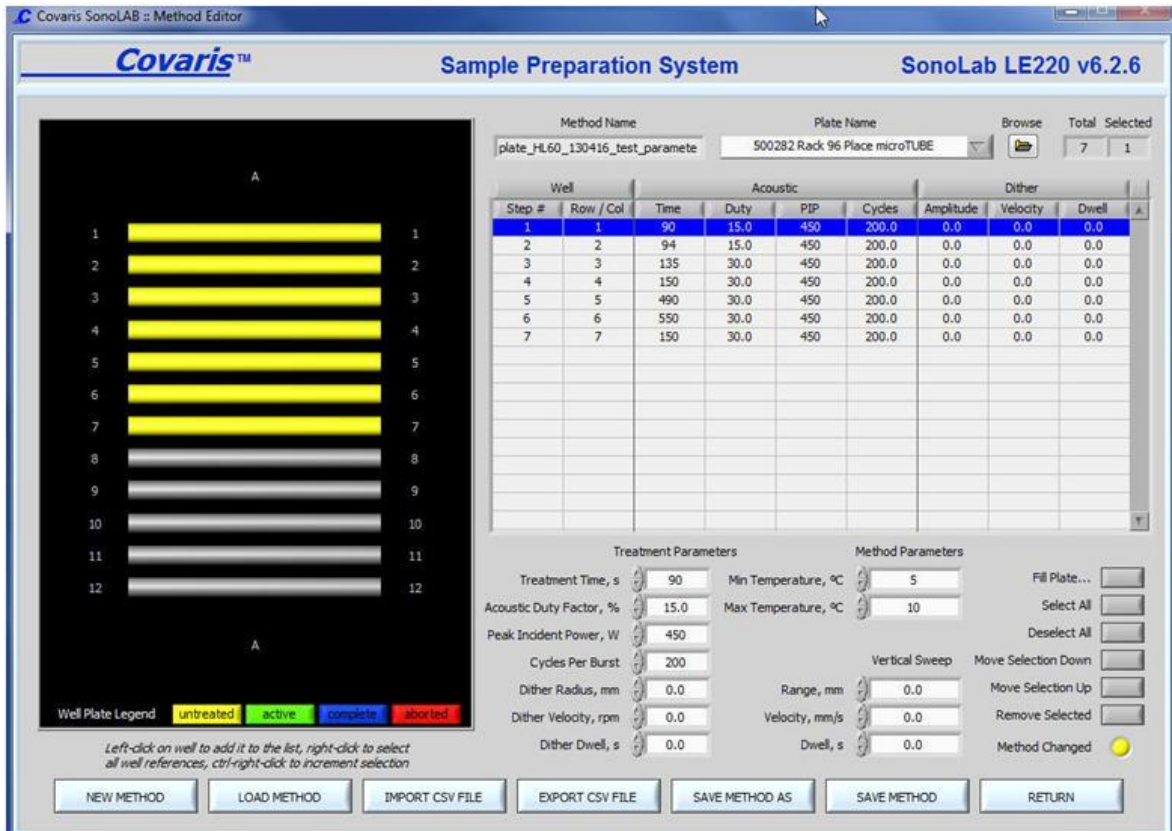

Figure 2 Method Editor showing different treatment parameters for the specified Method Name.
- In the following example, 7 columns (shown sideways as horizontal bars) of samples receive different Treatment times (sec). Column 1 and 2 receive a lower Duty (15%). See Figure 2 below.